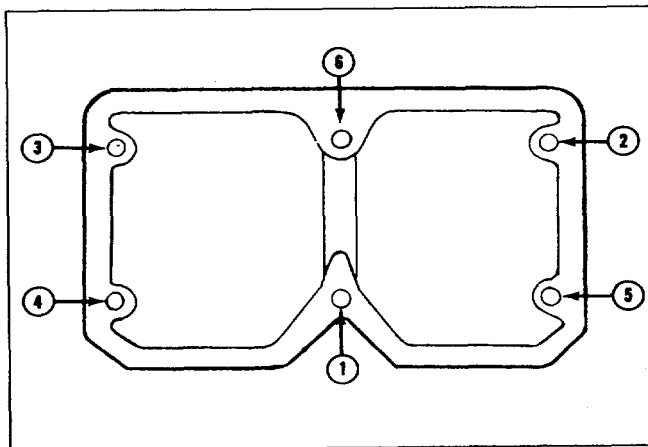

Fig. 20-6 (N11463). The Tightening Sequence For The Jacobs Brake Studs In The Rocker Lever Housings.
13. Tighten the studs to 65 to 75 ft.-lbs. [88 to 102 Nom] torque. Tighten the studs in the sequence shown in Fig. 20-6.
18. Tighten the nuts to 55 to 60 ft.-lbs. [75 to 81 Nom] torque. Tighten the nuts in the sequence shown in Fig. 20-6.